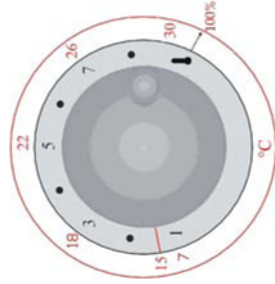

Figure 3 : Scale of the knob 1 of Regulator
2. Turn knob 1 to the desired temperature. As illustrated on the scale (See figure 3). The temperature ranges between 7°C to 30°C; number 1 correspond to about 7°C, setting up to the end of the regulation scale, at the very end of the scale there is the temperature bulb symbol for (100% max power), at this point it is possible to maintain the maximum temperature continuously. The scale of the knob 1 isn't linear, it's an expanded scale. Use this scale to set the desirable temperature.